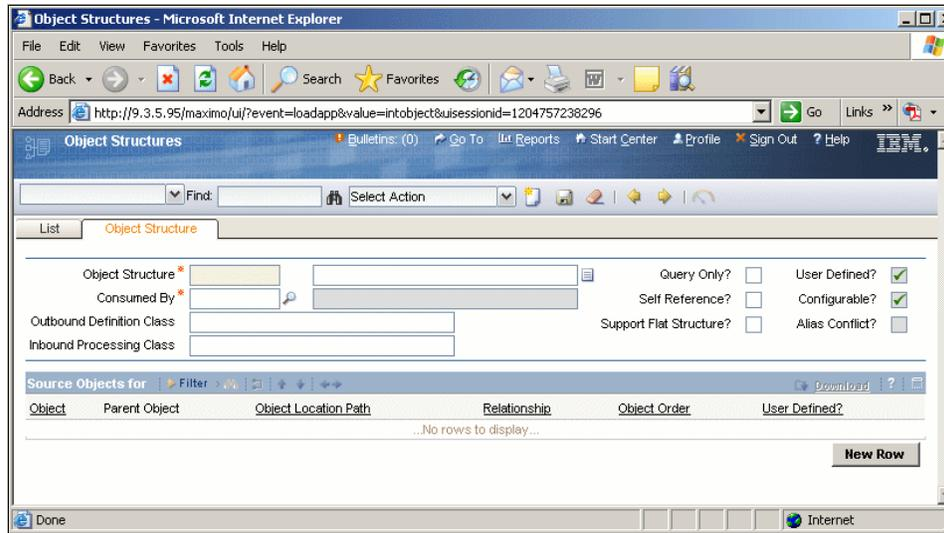

Figure 2-40 Object Structure application
1. Click **New**. Figure 2-40 on page 95 appears.